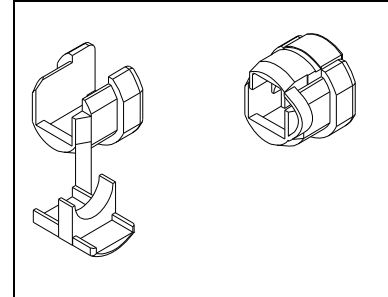
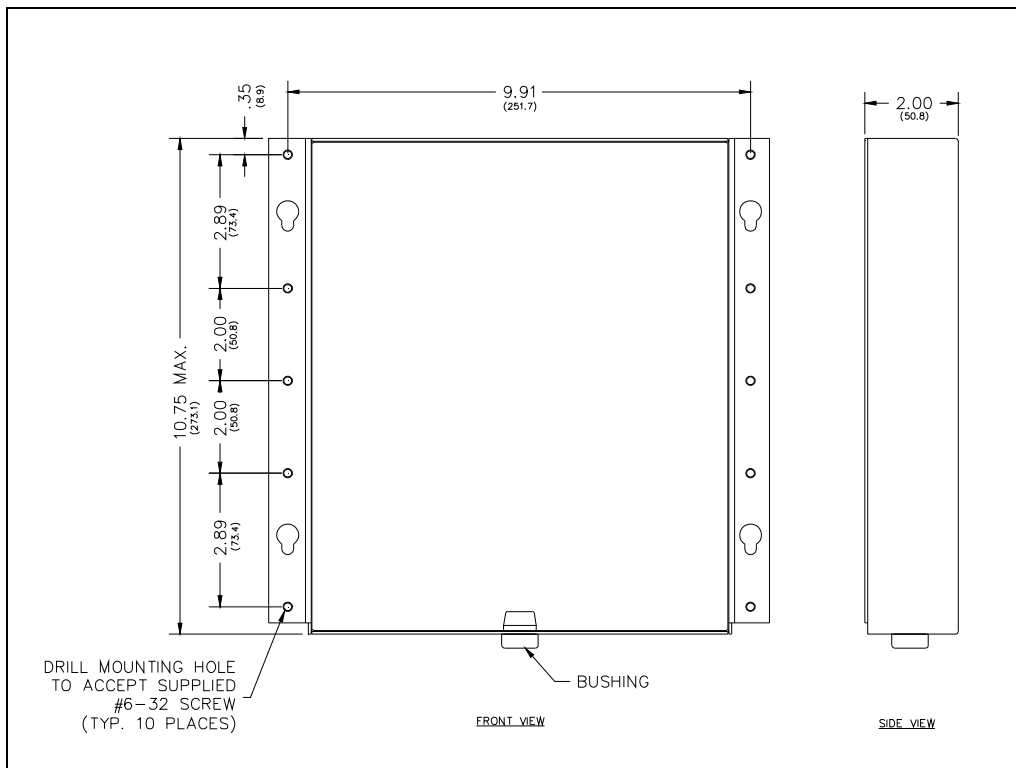
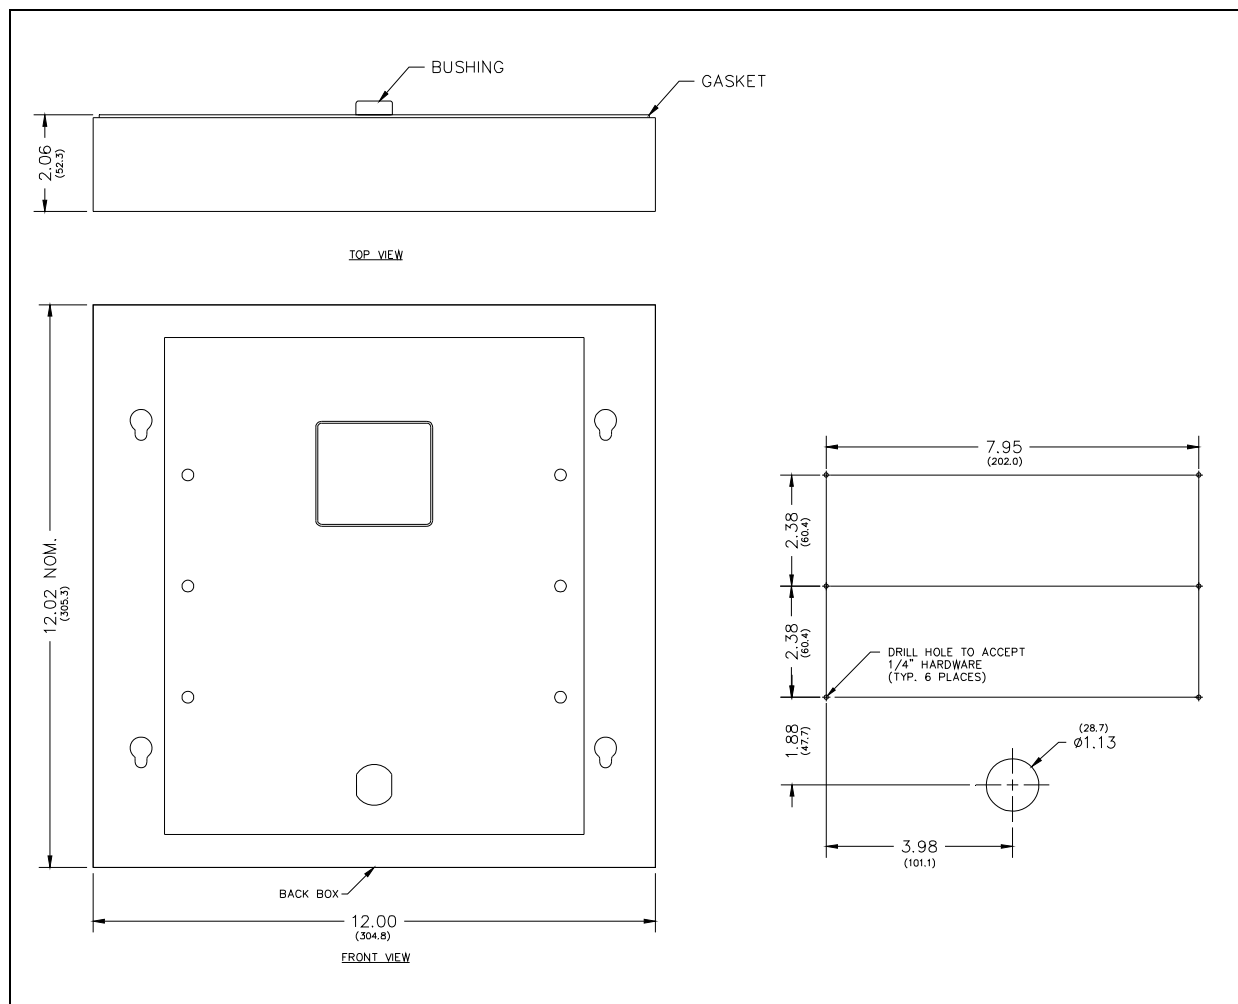

Figure 3. Bushing
Figure 6. Back Box for Model 295-001F
Figure 8. Mounting the Model 295-001W
4. Place the bushing around the field telephone line and the power cable line approximately 6–8 inches from the end of the cable. Snap the bushing closed and insert it into the double D hole in the bottom of the back box (see Figure 3 and Figure 6).
5. Place the back bracket in the wall and mark the mounting hole locations (see Figure 6).
3. Use the back box as a template to mark and drill the mounting holes on the mounting surface (see Figure 8).
5. Snap the bushing closed and insert it into the double D hole in the back of the back box (see Figure 3 and Figure 8).